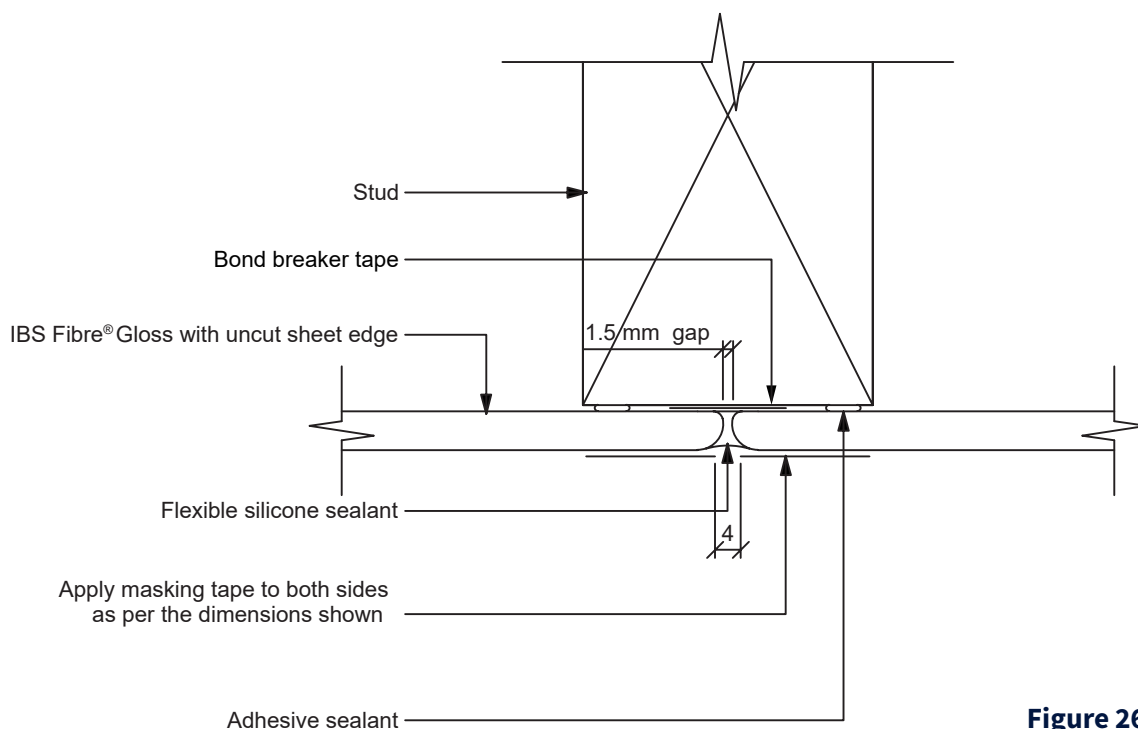

Figure 26
- Apply bond breaker tape to framing behind joints (see Fig. 26).
- Use factory-painted, radiused edges for all flat joints (see Fig. 26).